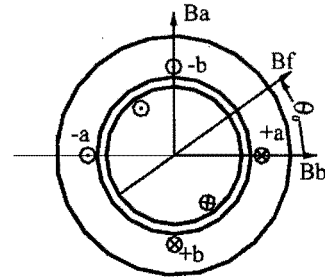

Fig. Q5-1
**Q5, 20 pts:** Fig. Q5-1 shows a cross-sectional sketch of a machine having a rotor winding  $f$  and two identical stator windings "a" and "b" with turns  $N$  whose axes are in quadrature. The uniform air gap between rotor and stator is "g", its equivalent cross-sectional area "Ag", and the material of the core  $\mu \rightarrow \infty$ . The stator windings are energized by a balanced two-phase currents: